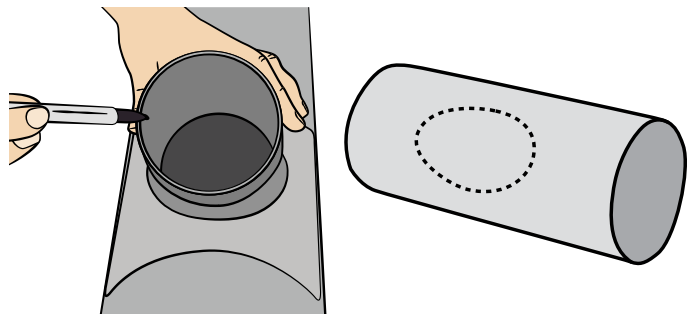

FIG. 19a
- Lay the Saddle Tap Wye in the correct orientation (see Step 18) and trace the egg shape onto the pipe from inside the branch [FIG. 19a].